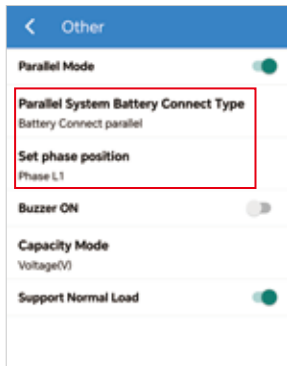

Figure 4-9 Inverter 1-Phase L1
3. Go to Console > Hybrid Setting > Other to enable parallel mode, and then select the appropriate battery connection type and phase position. All inverters in the system should be configured with these parameters, as shown in *Figure 4-9&4-10*.